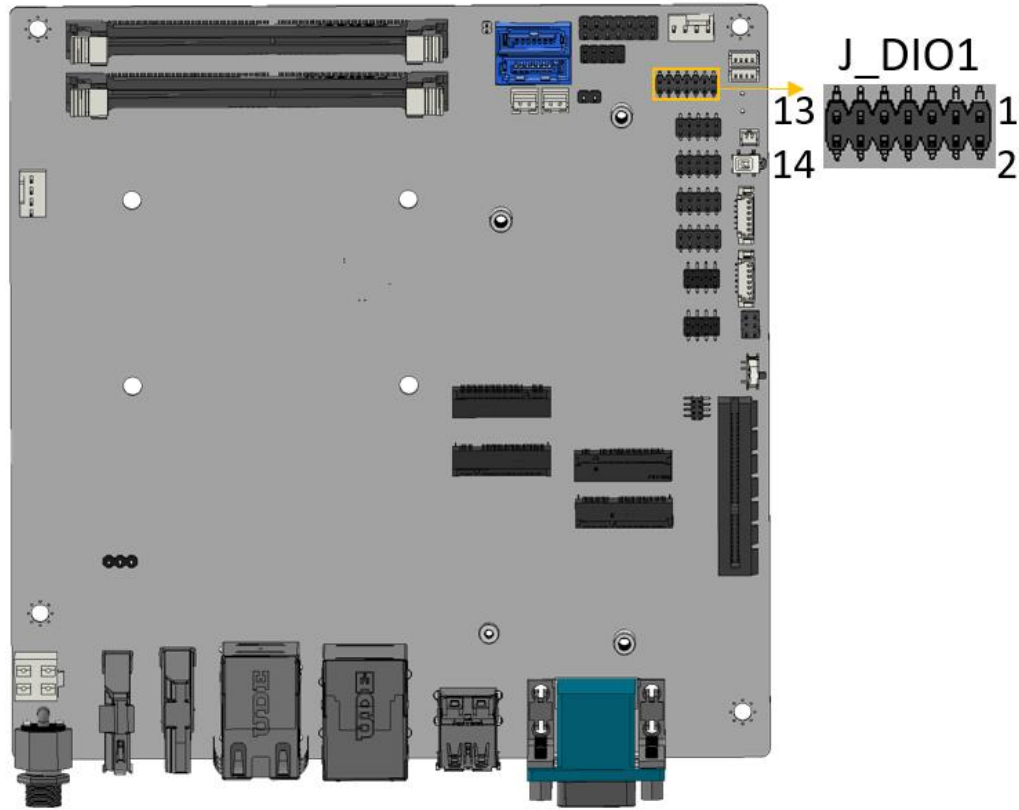

Figure 3-9: Digital I/O Connector Location
- CN Location:** See Figure 3-9